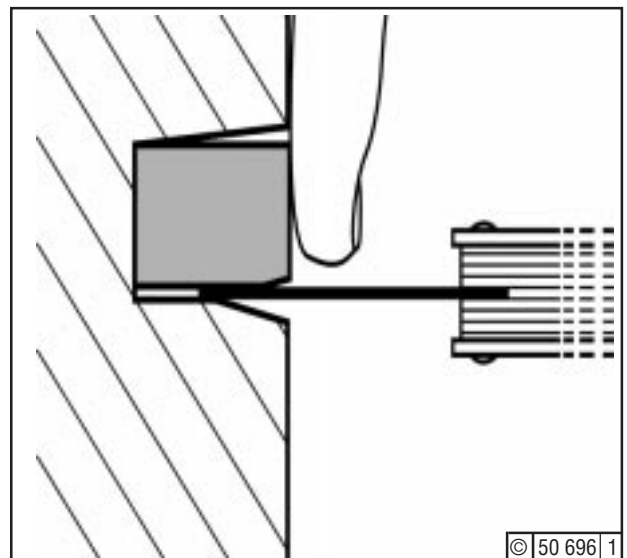

Fig. 2 Measuring procedure for gauging axial clearances
- Mark the insertion depth of 5 mm on a 0,4 mm feeler gauge, Fig. 2.